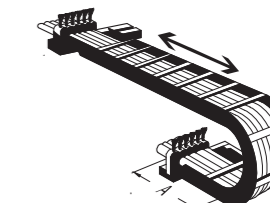

Fig. 2
- With long energy chains in which the upper drum lies on the lower drum, fasten the cables only at the driver end (→ Fig. 2).